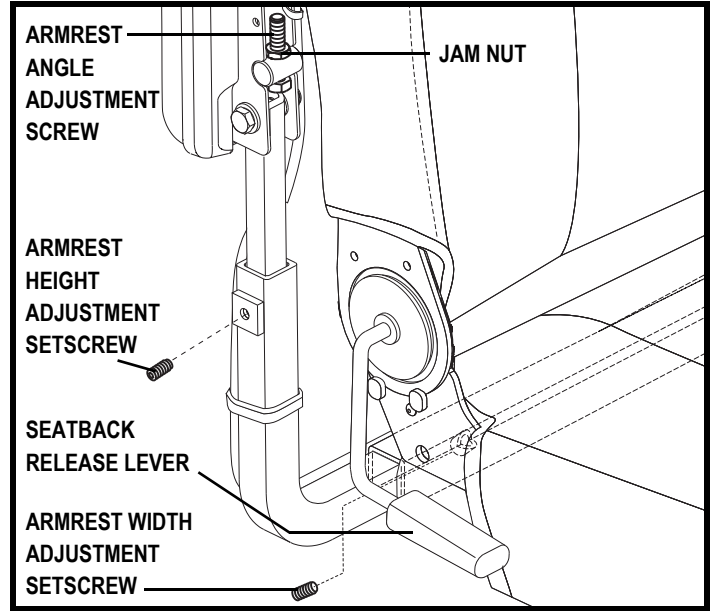

Figure 14. Armrest and Seatback Adjustments
If your power chair is equipped with a manual recline seatback, you can adjust the seatback angle with the seatback release lever. The lever is located on the right side of the seat base. See figure 14.
1. Locate the armrest width adjustment setscrew on each side of the armrest receiver bracket. See figure 14.
1. Loosen the setscrew on the armrest. See figure 14.